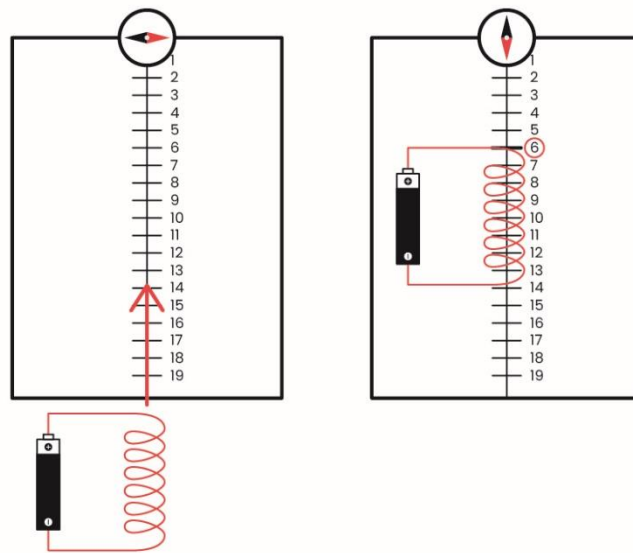

Fig. 3 The course of the experiment
2. Position the electromagnet on the board as shown in Figure 3 and connect the free end of the wire to the "+" of the battery with insulating tape.